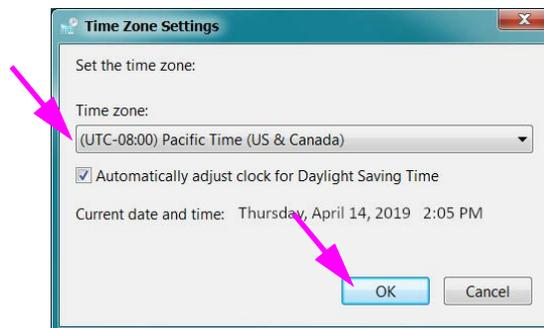

Figure 2-33. Time Zone Settings Dialog Box
5. Click the **Change Time Zone...** button. The Time Zone Settings dialog box appears. See Figure 2-33.